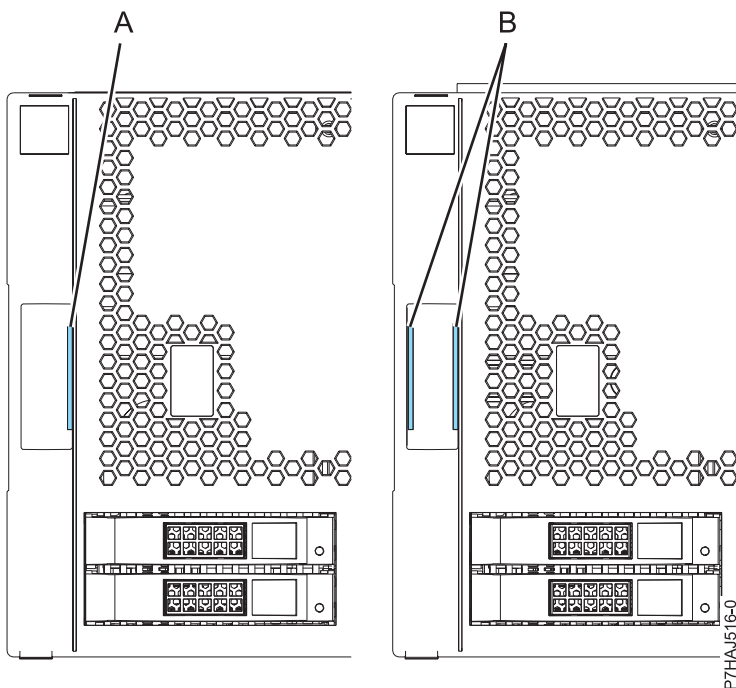

Figure 14. Identifying the older and newer covers
**Note:** The older covers that were shipped before 1 March 2011 can be identified by a single blue stripe (A) on the cover assembly latches. Newer covers that were shipped after 1 March 2011 have two blue stripes (B) on the cover assembly latches. See Figure 14.